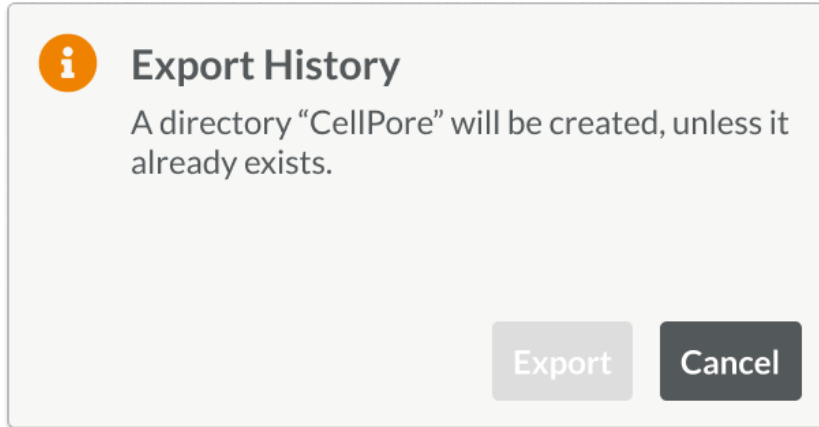

Figure 42. Dialog Box to Confirm Exporting Results to a USB Device
3. Tap . This icon shows the number of items to be exported in parentheses. A prompt will appear to insert a USB device if there is not one already inserted (Figure 42).